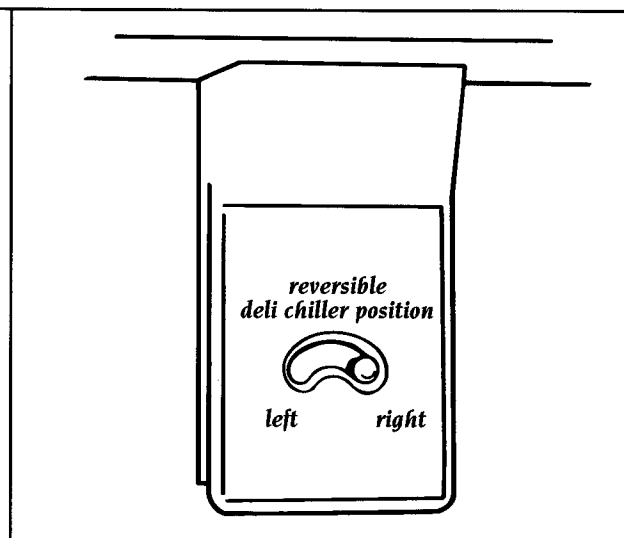

Figure 51
a. On refrigerated deli chiller refrigerators, move plastic switch located on the back wall of refrigerator from left to right. See Figure 51.